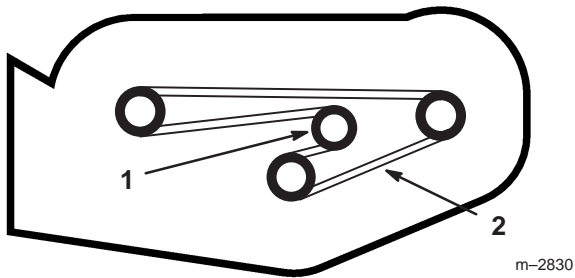

Figure 27
3. Push on idler to release tension and remove the belt from the pulleys (Fig. 27).
1. Install the new belt around the blade pulleys and the idler pulley (Fig. 27).